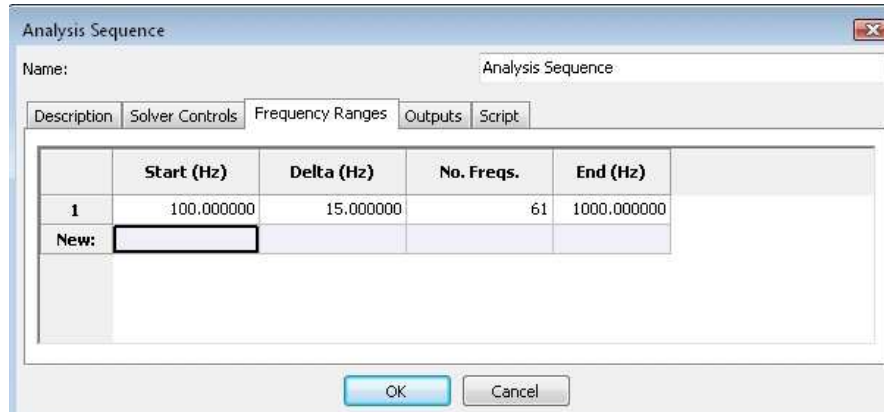

Figure 9.45: Set analysis frequencies.
- Move onto **Frequency Ranges** tab to specify analysis frequencies. Refer to Figure 9.45.